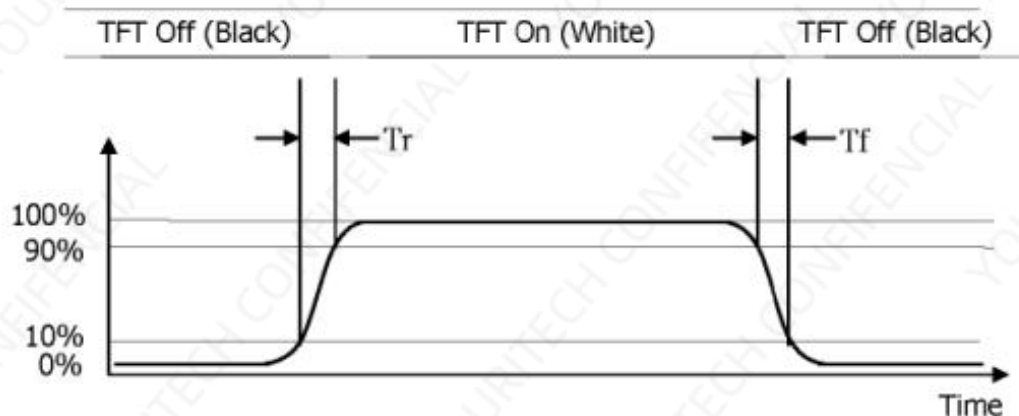

Figure1 Response Time Testing
2. Contrast measurements shall be made at viewing angle of  $\theta = 0^\circ$  and at the center of the LCD surface. Luminance shall be measured with all pixels in the view field set first to white, then to the dark (black) state. (See FIGURE 1 shown in Appendix) Luminance Contrast Ratio (CR) is defined mathematically.
4. The electro-optical response time measurements shall be made as **FIGURE 1** shown in Appendix. The times needed for the luminance to change from 10% to 90% is  $T_r$ , and 90% to 10% is  $T_f$ .